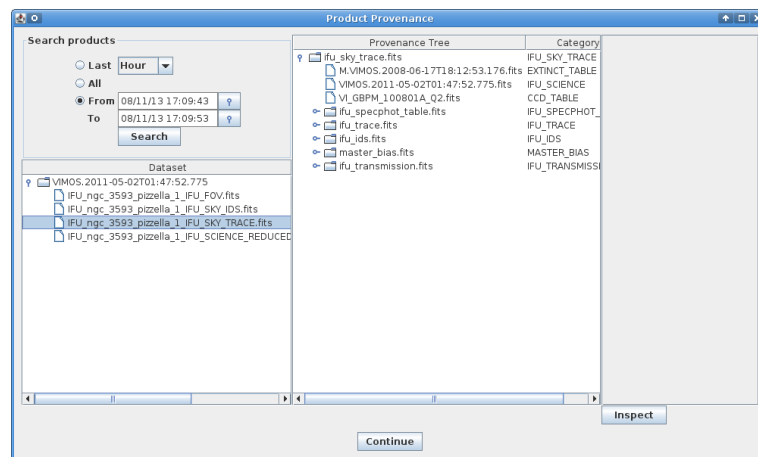

Figure 4.4: The Provenance Explorer shows all datasets reduced in previous executions together with the full reduction chain for all the pipeline products.
9. When the reduction of the current DataSet finishes, a pop-up window called *Product Explorer* will appear showing the datasets which have been so far reduced together with the list of final products. This actor allows the user to inspect the final data products, as well as to search and inspect the input data used to create any of the products of the workflow. Figure 4.4 shows the Product Explorer window.